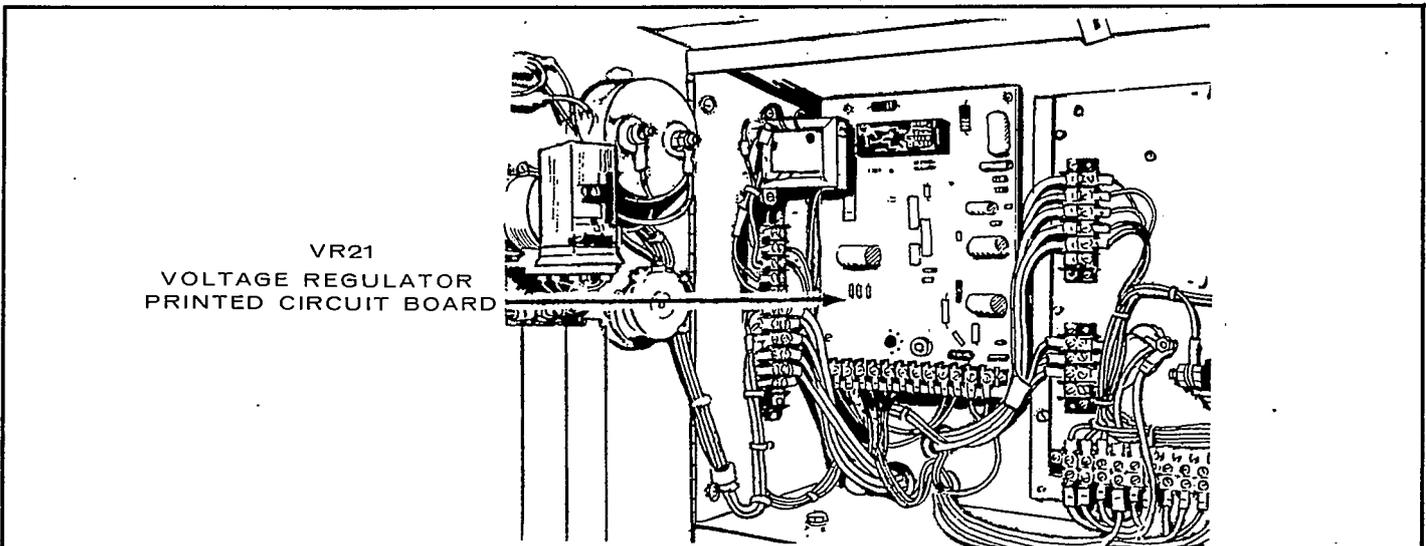

FIGURE 4. VOLTAGE REGULATOR PRINTED CIRCUIT BOARD LOCATION
4. Voltage-regulator PC Board VR21 (Printed Circuit Board) mounts inside the control box on the rear panel (left side); turn 1/4 turn fasteners on front of control box to gain access. See Figure 4.
| 9. | The trouble is probably caused by a defective component on the voltage regulator printed circuit board. REPLACE VR21 PRINTED CIRCUIT BOARD (see Figure 4). | — | — | |
| 3. | The trouble is probably caused by a defective component on VR21 voltage regulator printed circuit board. REPLACE VR21 PRINTED CIRCUIT BOARD (see Figure 4). | — | — | |
| 6. | The trouble is probably caused by a defective component on VR21 voltage regulator printed circuit board. REPLACE VR21 PRINTED CIRCUIT BOARD (see Figure 4). | — | — | |